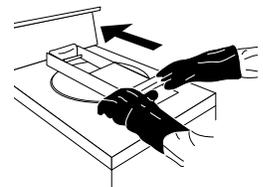

FIGURE 12
- C. Then with the lid in the lowered position, use one hand to move handlebar to open. (Figure 12)